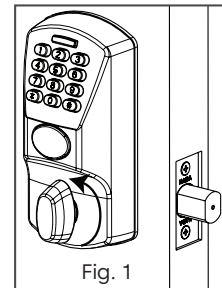

Fig. 1
2. Turn outside thumbturn, the deadbolt must not retract. See Fig. 1.